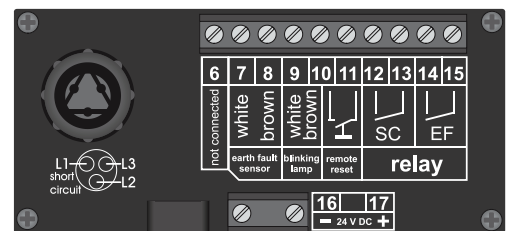

figure 2 - Connectors two relay version
- Connector 14-15: SCADA remote contact for earth-fault (please refer to figure 2)